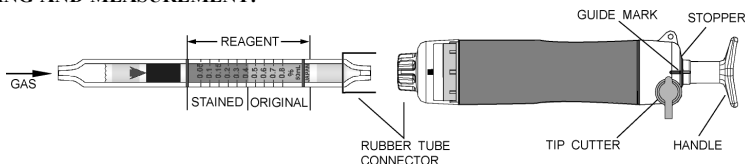

Fig.1
- ① Break both ends of the detector tube.
- ② Insert the detector tube into the aspirating pump securely as shown in Fig.1. (Arrow mark shall point to the pump.)
- ③ Align the guide marks on the shaft and stopper of the aspirating pump.
- ④ Pull the handle at a 1/2 stroke (to 50mL line) until it locks and wait for 0.5 minutes or until the completion of sampling is confirmed with the flow indicator of the pump. (See descriptions about the flow indicator in the instruction manual of the pump.)
- ⑤ On completion of sampling, read the scale at the maximum point of the stained layer.